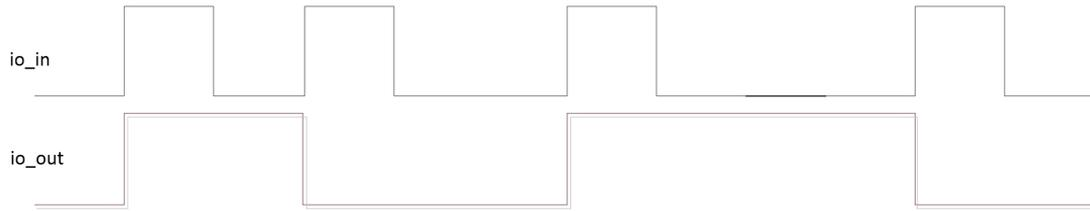

Figure 21 Non-uniform periodic frequency division
- When io\_in is a non-uniform period distribution, io\_out is a non-equal duty waveform after even frequency division, as shown in Fig. 21